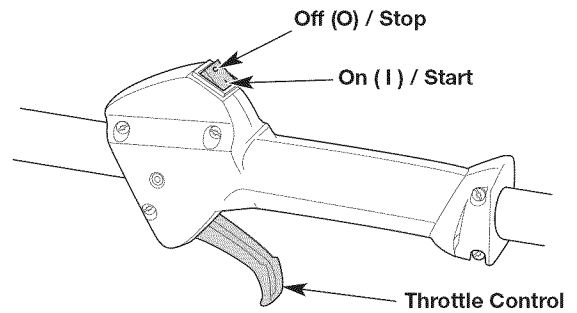
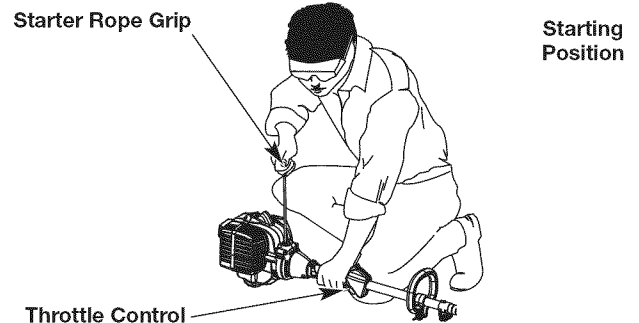

Fig. 7
Fig. 9
**WARNING:** Avoid accidentally starting the unit. To avoid serious injury, the operator and the unit must be in a stable position when pulling the starter rope (Fig. 9).
**NOTE:** There is no need to turn the unit on. The On/Off switch is in the ON ( 1 ) position at all times (Fig. 7).
5. Crouch in the starting position (Fig. 9).
6. Squeeze the throttle control (Fig. 7) and pull the starter rope with a controlled and steady motion **5 times** (Fig. 9).
2. Press and hold the On/Off switch in the OFF (O) position until the engine comes to a complete stop (Fig. 7).
**NOTE:** There is no need to turn the unit on. The On/Off switch is in the ON ( I ) position at all times (Fig. 7).
7. Squeeze and hold the throttle control (Fig. 7). Run the Speed Start™ accessory for 2 seconds.